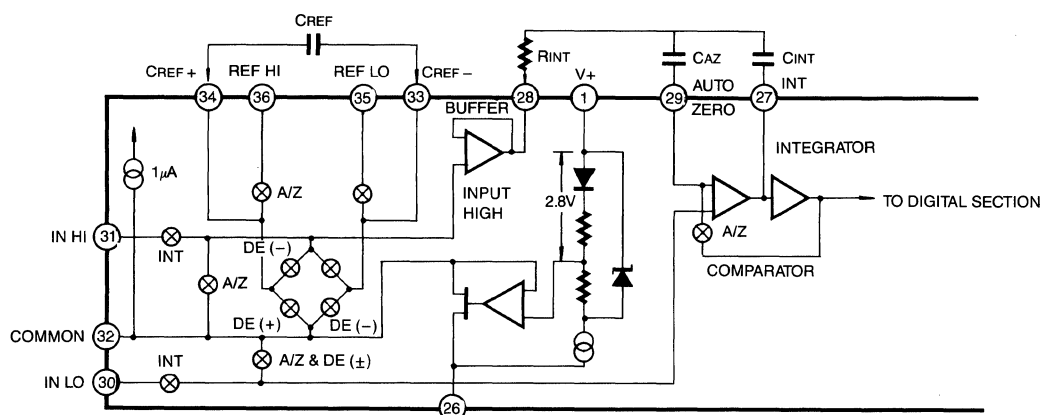

Fig. 3 Analog Section of KS7126
Fig. 3 shows the Block Diagram of the Analog Section for the KS7126. Each measurement cycle is divided into three phases. They are (1) auto-zero (A-Z), (2) signal integrate (INT) and (3) de-integrate (DE).